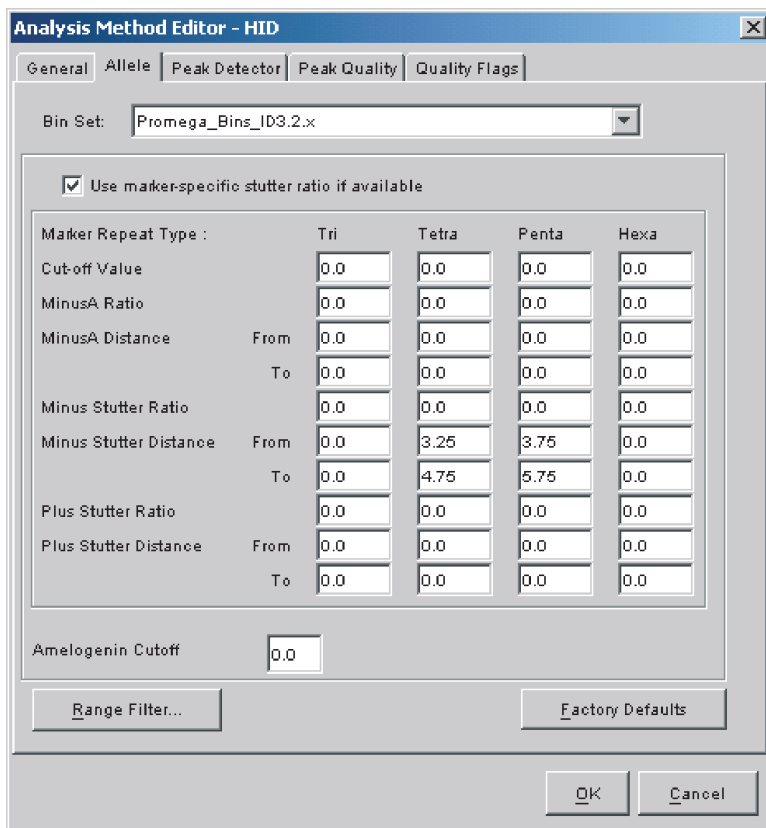

Figure 18. The GeneMapper® ID 'Allele' tab.
6. Select the 'Allele' tab (Figure 18).
9. Enter the values shown in Figure 18 for proper filtering of stutter peaks when using the PowerPlex® 16 System. For an explanation of the proper usage and effects of these settings, refer to the Applied Biosystems user bulletin titled "*Installation Procedures and New Features for GeneMapper ID Software 3.2*".